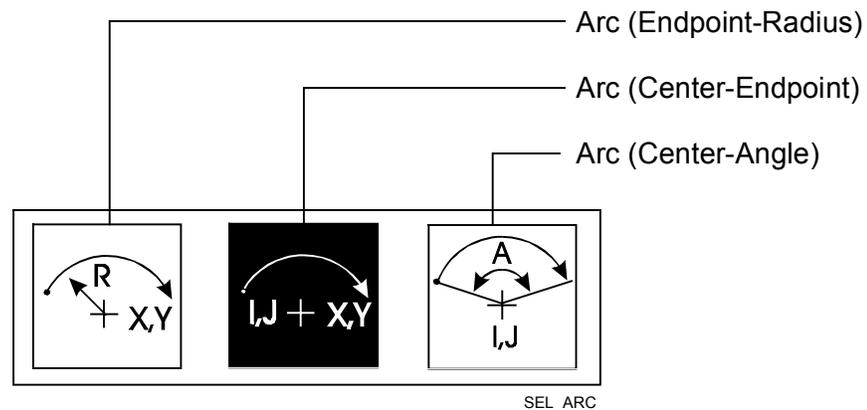

Figure 5-12, Arc Definition Selection Menu
3. Refer to **Figure 5-12**. Select the **ARC (CENTER-ENDPOINT)** template. Press **ENTER**. The Arc (Center-Endpoint) Graphic Menu activates. The required **Cw** direction is already selected. The following steps will program the remaining arc parameters.